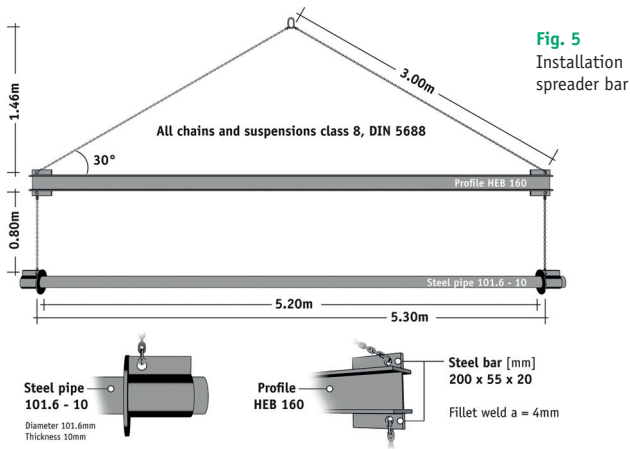

Fig. 5
8.3 Lifting the rolls can be accomplished with a 63mm - 75mm outside diameter steel pipe/bar (preferably solid), with a wall thickness capable of providing sufficient beam strength to support the weight of the roll without bending, which is (GCL type dependent) generally between 900 and 1,200kg (for 5m wide Bentofix® GCLs). The core pipe is inserted through the centre core of the Bentofix® roll. Heavy-duty slings or chains are attached to each end of the pipe, which are then fastened to a spreader bar (fig. 5).
16.8 Rolls of Bentofix® material are unrolled using a front-end loader or other approved handling equipment. A spreader bar (fig. 5) or other approved apparatus is attached to the bucket or the front of the equipment.